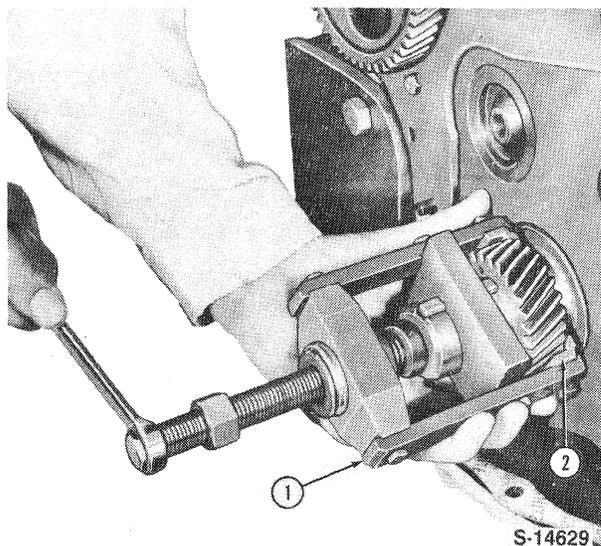

Figure 24
- Remove the fuel injection pump drive gear, camshaft drive gear and adapter and the camshaft gear. Use Tool No. 2134 and 1237 to remove the crankshaft gear, Figure 24.